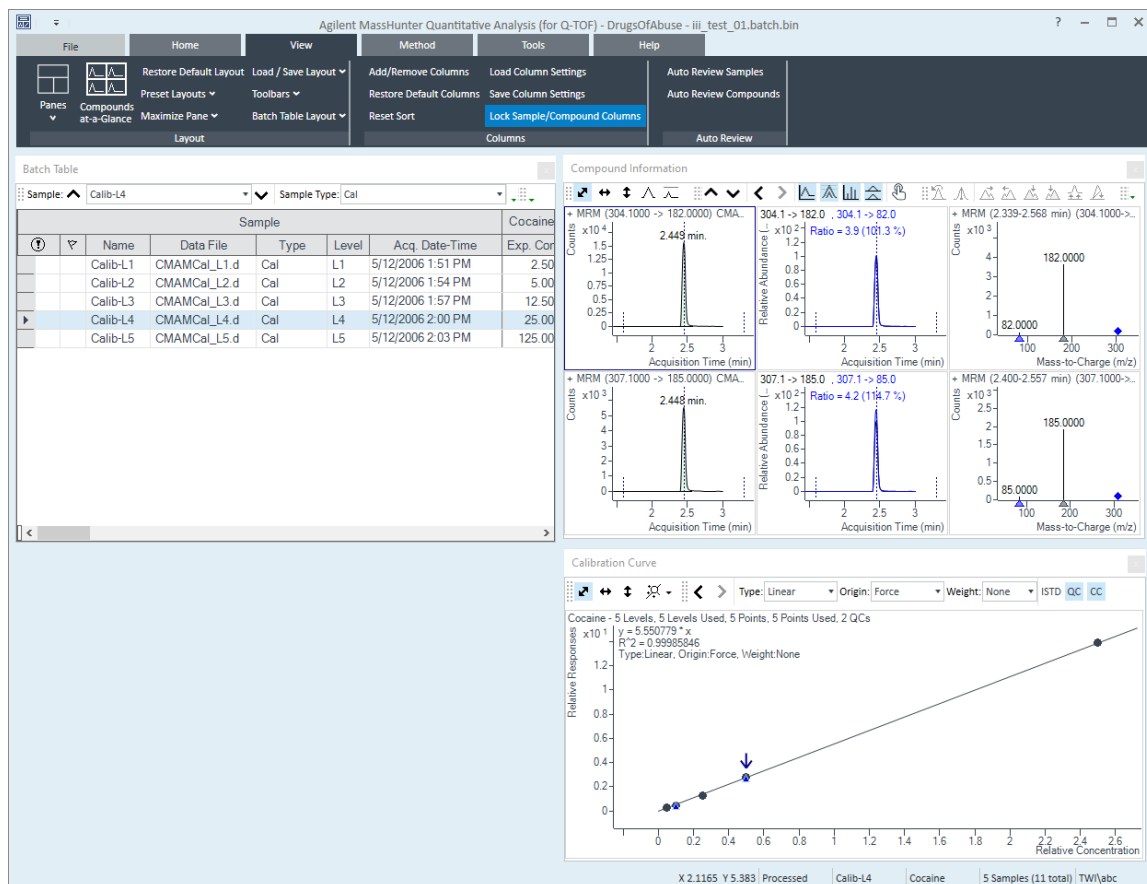

Figure 8. Display with Calibration Curve and Compound Information windows floating
Step 6 Create the layout as shown in **Figure 8** on page 48:
- 4 Resize the windows to match the layout in **Figure 8**.